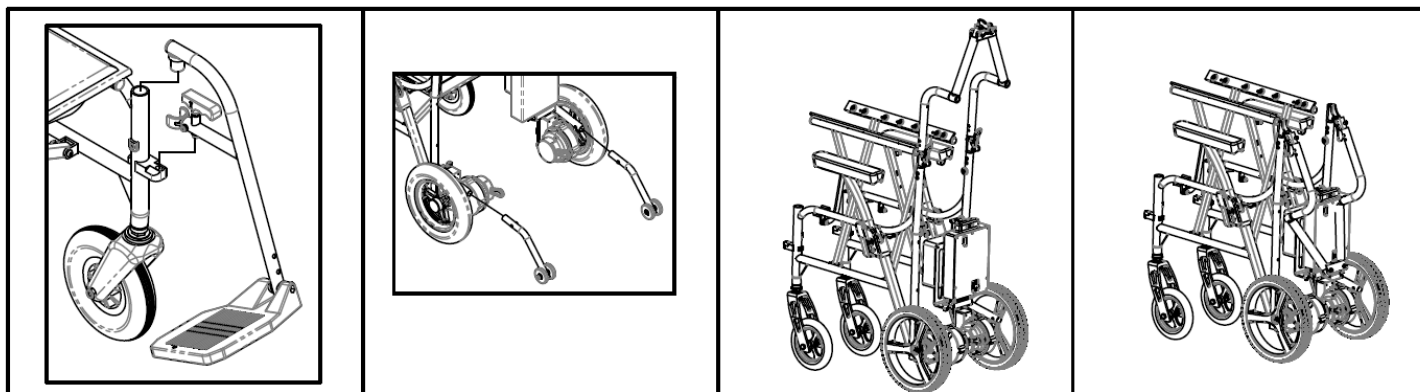

Figure 8.
2. Hold the both side of armrest and pull hard, one hand on the armrest and the other one to press down the seat. **See figure 8**
Hold the hand with one hand and press the back folding button with the other one. See figure 8.
Lift the handle upwards as indicated by the yellow arrow and rotate it outwards, legrest shall be removed. And the converse is to assemble the legrest. See figure 8.